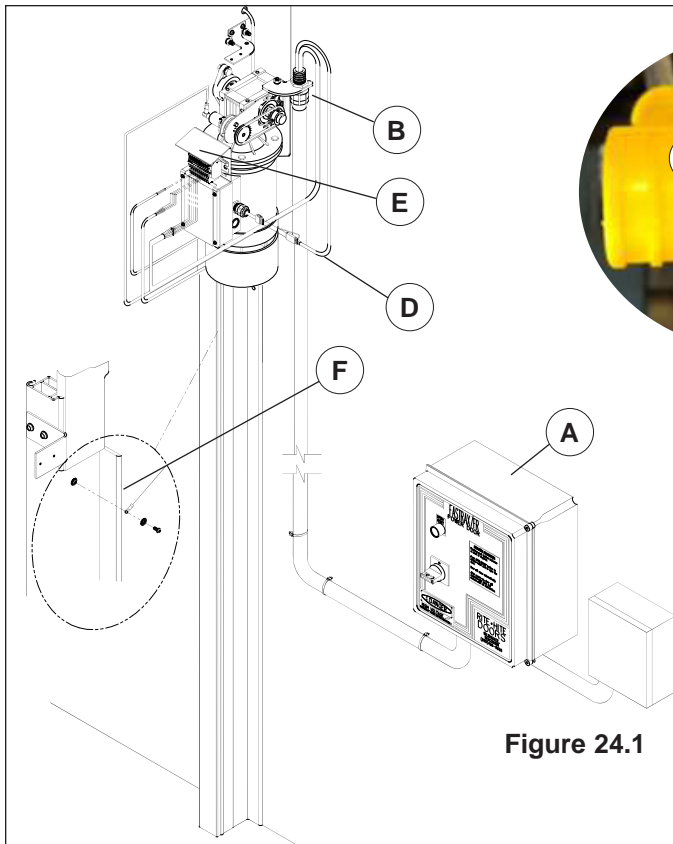

Figure 24.1
1. Mount control box (A) adjacent to the door at approximately 54" [1372] above the floor and 14" [356] from lower track.
2. Connect control box cable to conduit bracket (B), cut cable to proper length, do not coil, Figure 24.1.
3. Line up pins and connect encoder cable (C) to encoder. Verify connector is tight. DO NOT over-tighten as pins will twist. When tight, the connector should not be able to move back and forth.
4. Connect four (4) pin motor and two (2) pin brake connectors (D).
5. Control box cable is pre-wired to the Terminal Strip (E). Use electrical drawings in Owner's Manual.
6. Attach ground wire to lower track (F).